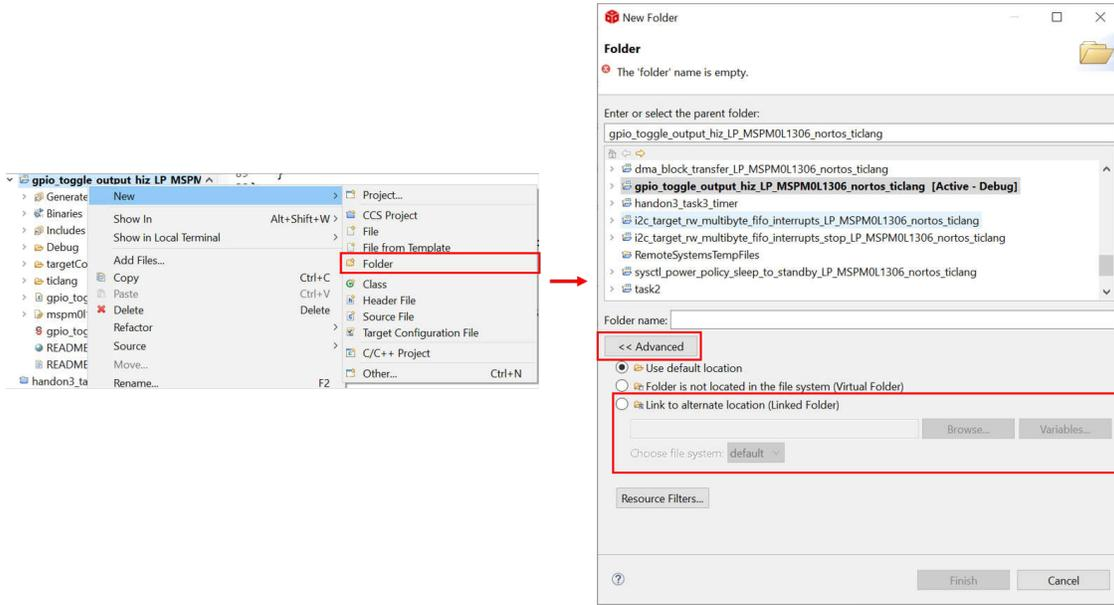

Figure 2-33. Add Relevant File
- If you want to add third-party libraries, you can follow the steps below. First, you have to add relevant file into your project, as shown in Figure 2-33.